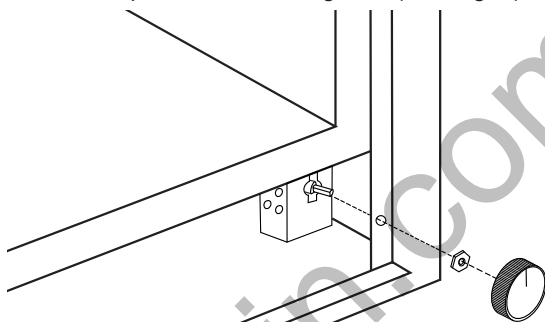

Fig. 4 Mounting Speed Control
4. Place the stem of the speed control into the hole for the control. Place the mounting nut over the plastic stem and tighten. (See Fig. 4)